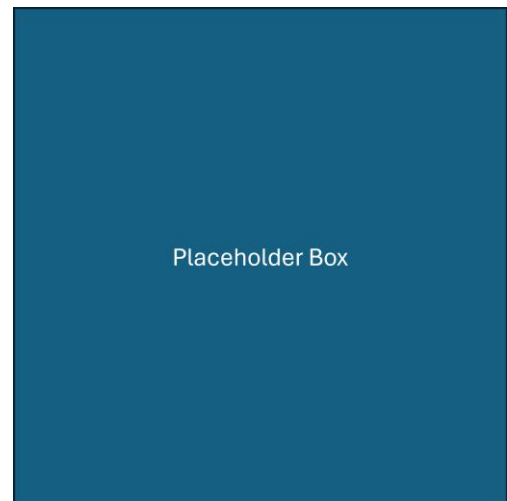

Figure 4-2 Hoses and Siphon Pump in Box
4. Hoses are then coiled and placed in the box and the siphon pump placed on top, as shown in Figure 4-2.